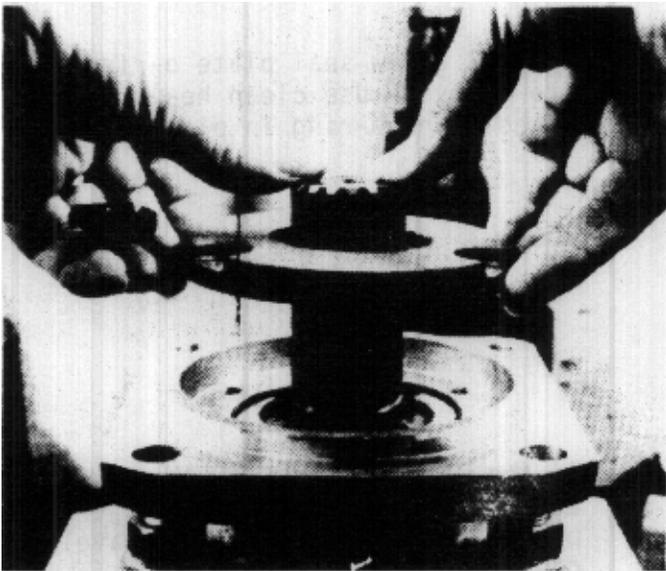

FIGURE 113
3. Remove the seal plate capscrews and lift the plate up and off the shaft. Remove the plate o-ring from its groove. (Fig. 113)